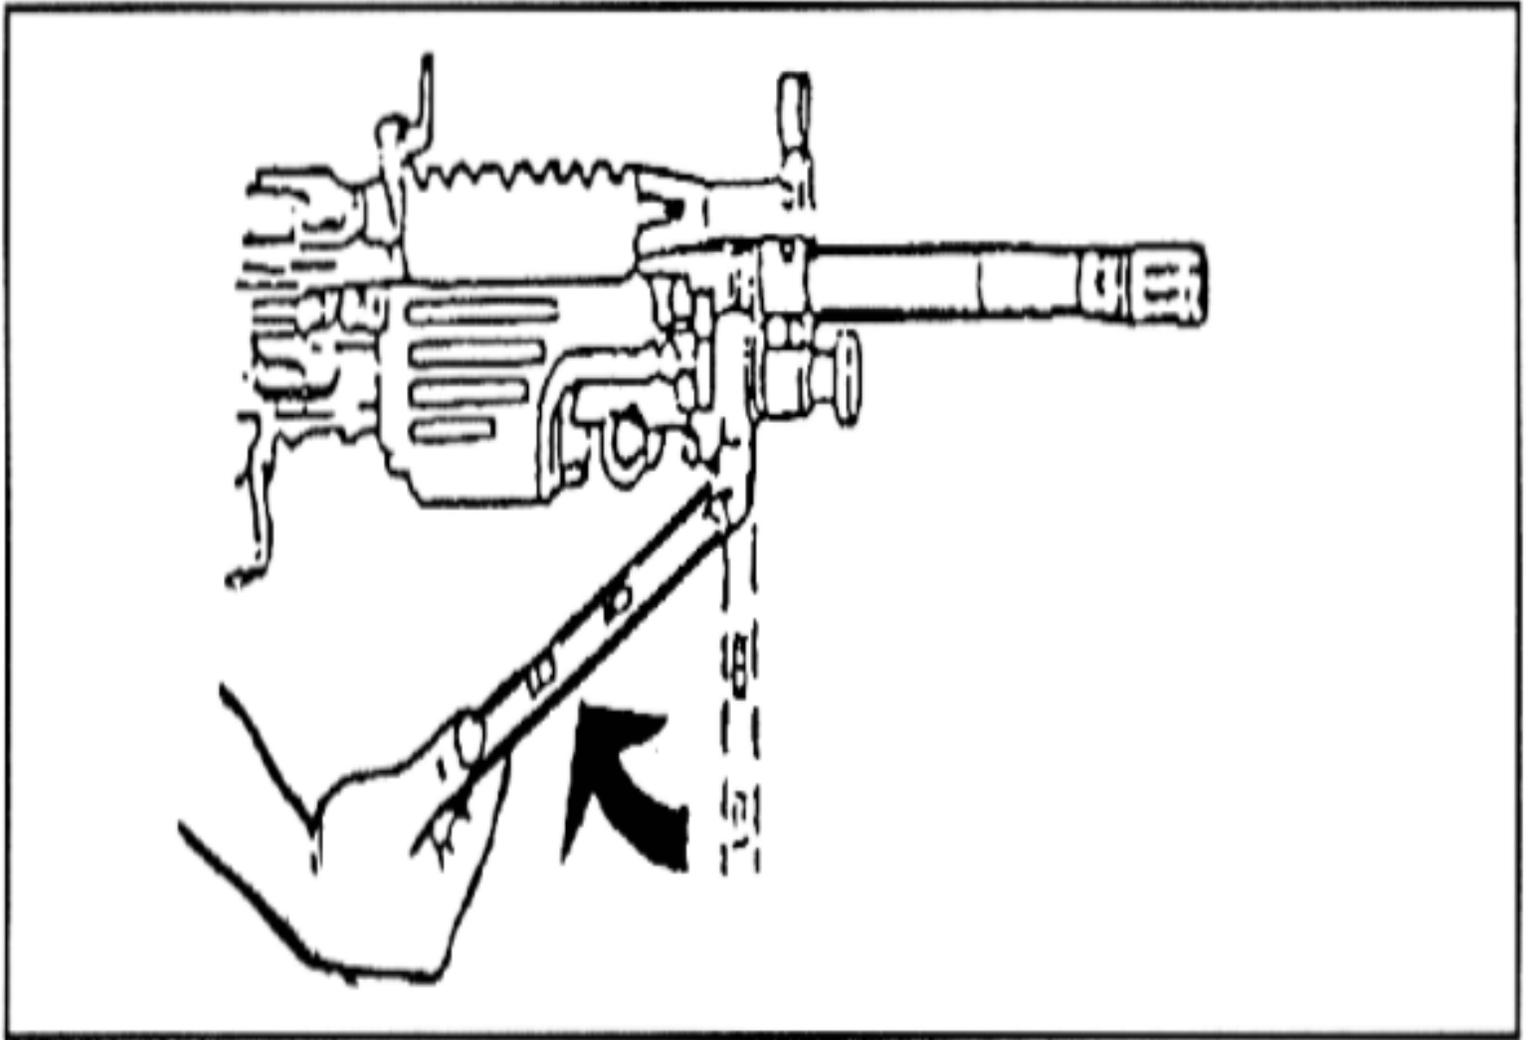

Figure 3-6. Folding of the bipod under the handguard.
c. Fold the bipod legs when transporting the weapon. Hold the two legs together, pull back under the handguard, and release so that the hooks on the legs grip the handguard. The bipod can be folded only when the legs are in the closed position (Figure 3-6).
Figure 3-6. Folding of the bipod under the handguard.